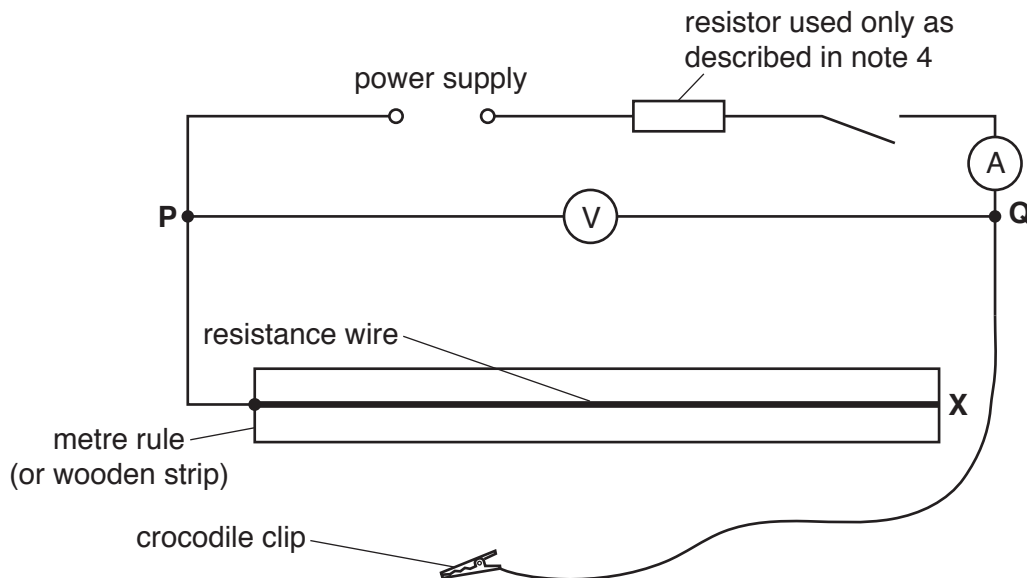

Fig. 1.1
- (vi) Sufficient connecting leads to set up the circuit shown in Fig. 1.1.
2. The circuit is to be set up for candidates as shown in Fig. 1.1, with the crocodile clip disconnected from the resistance wire. The free end of the resistance wire must be labelled **X**. Label **P** and **Q** as shown in Fig. 1.1.
4. Where candidates are provided with a variable power supply, the voltage should be set by the Supervisor and fixed, e.g. taped. If the power supply is a power pack or lead acid cells, rather than dry cells, a  $1\ \Omega$ , 3 W resistor must be connected in series with the power supply as shown in Fig. 1.1. Appropriate insulating tape should be used to cover this resistor and hide it from view.
Ensure that the circuit is connected as shown in Fig. 1.1.